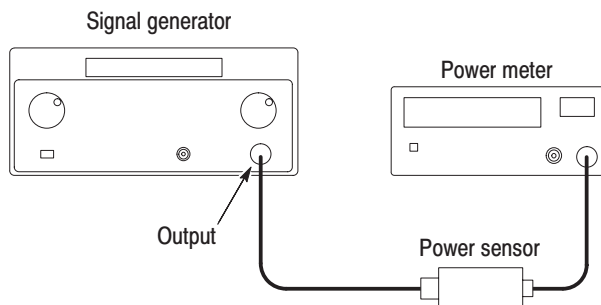

Figure 4-10: Hookup for setting the signal generator output
- a. *Hook up the instruments:* Connect the signal generator (Item 1) output through a 50 Ω N-N coaxial cable to the power sensor input. See Figure 4-10.